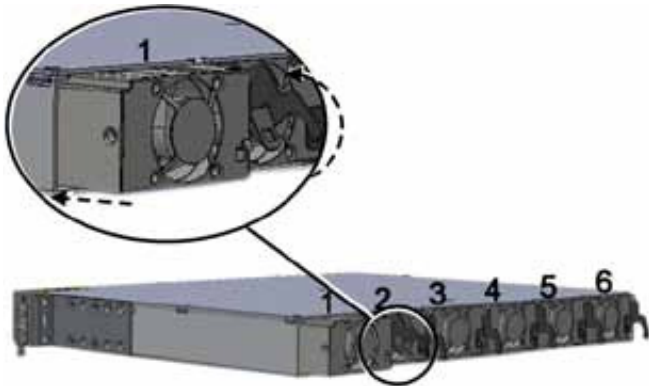

Figure 5-1. Inserting Power Supply Module
1. With the lever up, slide the power supply module into one of the six slots on the PSU6 enclosure rear (Figure 5-1).